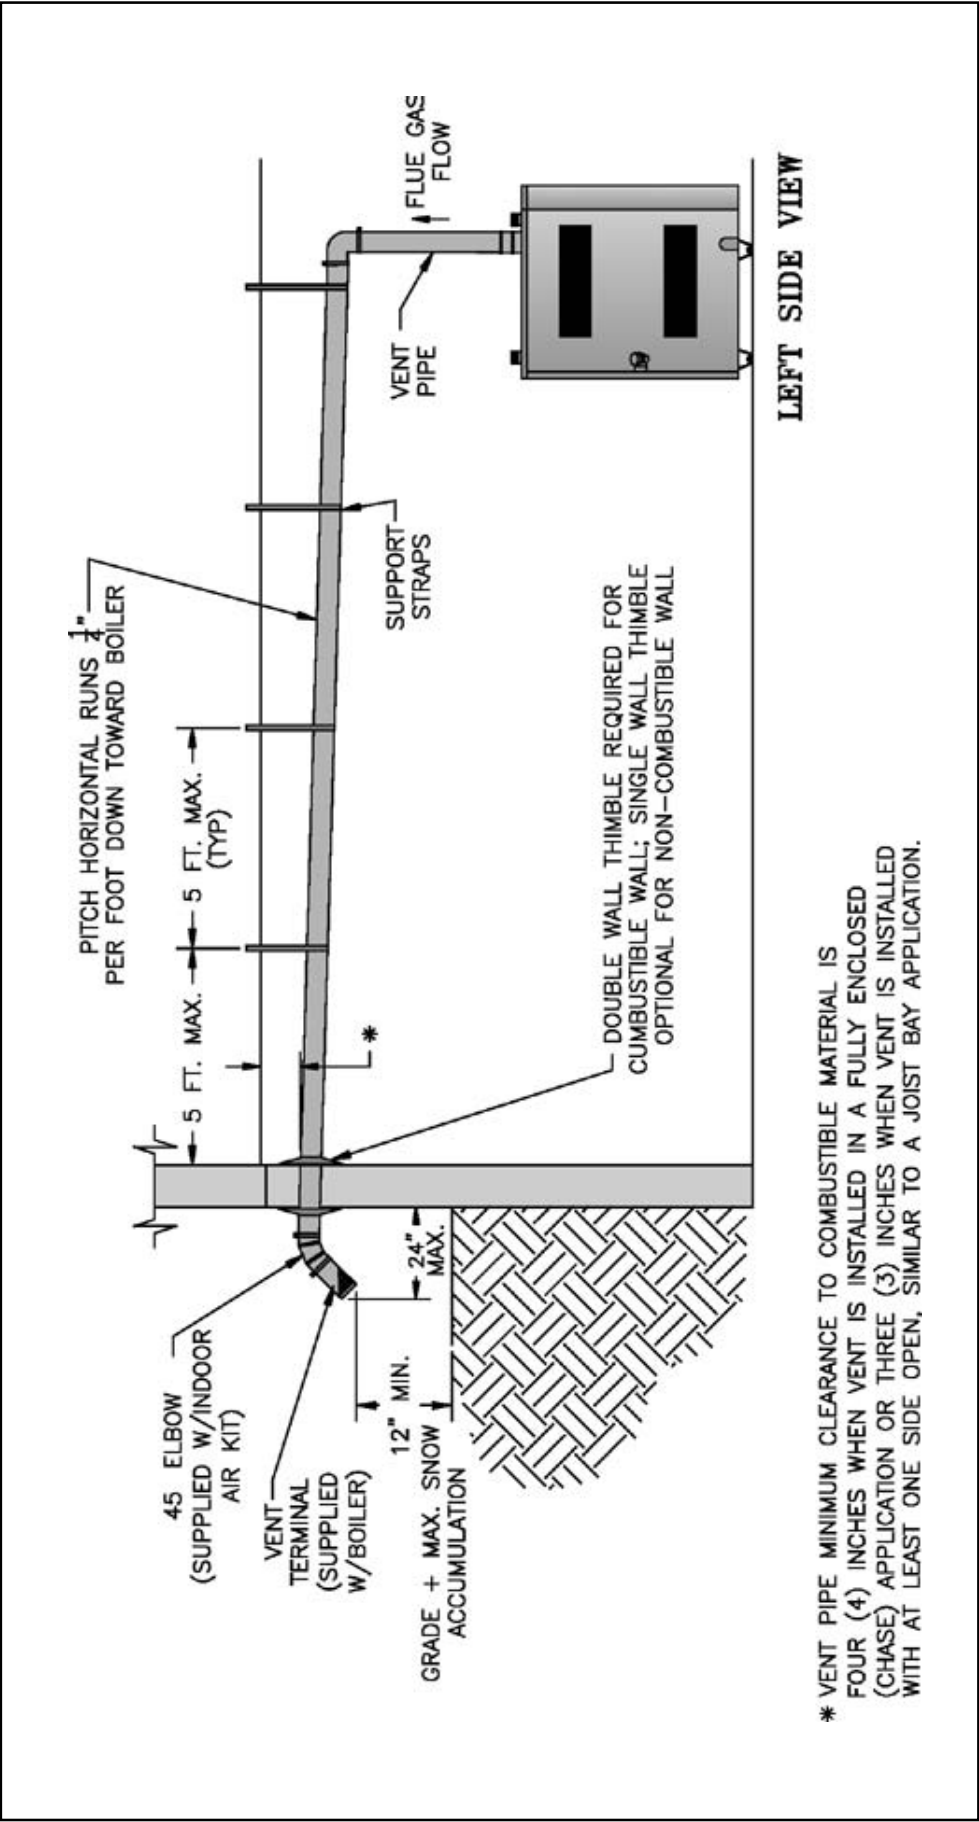

Figure 15: Indoor Air - Horizontal Vent Installation
J. Indoor Air Installation – See Figures 15, 16, 17, 18 and 19.
3. Recommended horizontal installation consists of vent being sloped down toward boiler. See Figure 15.